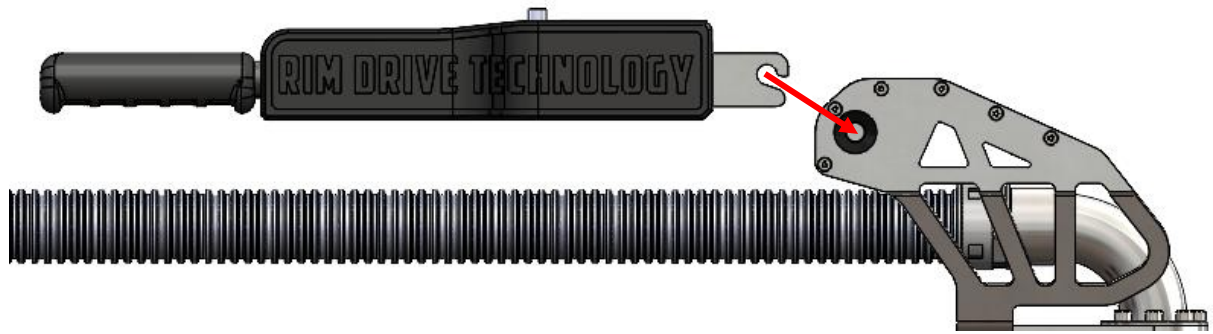

Figure 3 Mounting the tiller module
2. Keep the shaft pressed in when mounting the tiller module. The position can be seen in Figure 3 Mounting the tiller module. If the module is not able to be inserted, go back to step 1 make sure the shaft is in the correct position.